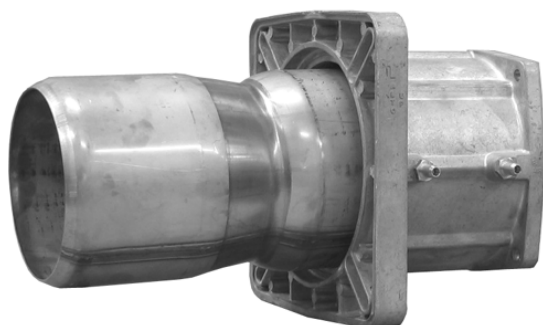

Fig. 6 - Short blast tube
- 4 Extract the blast tube from the flanged piece and assemble it in the other way round as shown in pictures Fig. 6 and Fig. 7. Now fasten the two pieces using the same screws (Fig. 8).